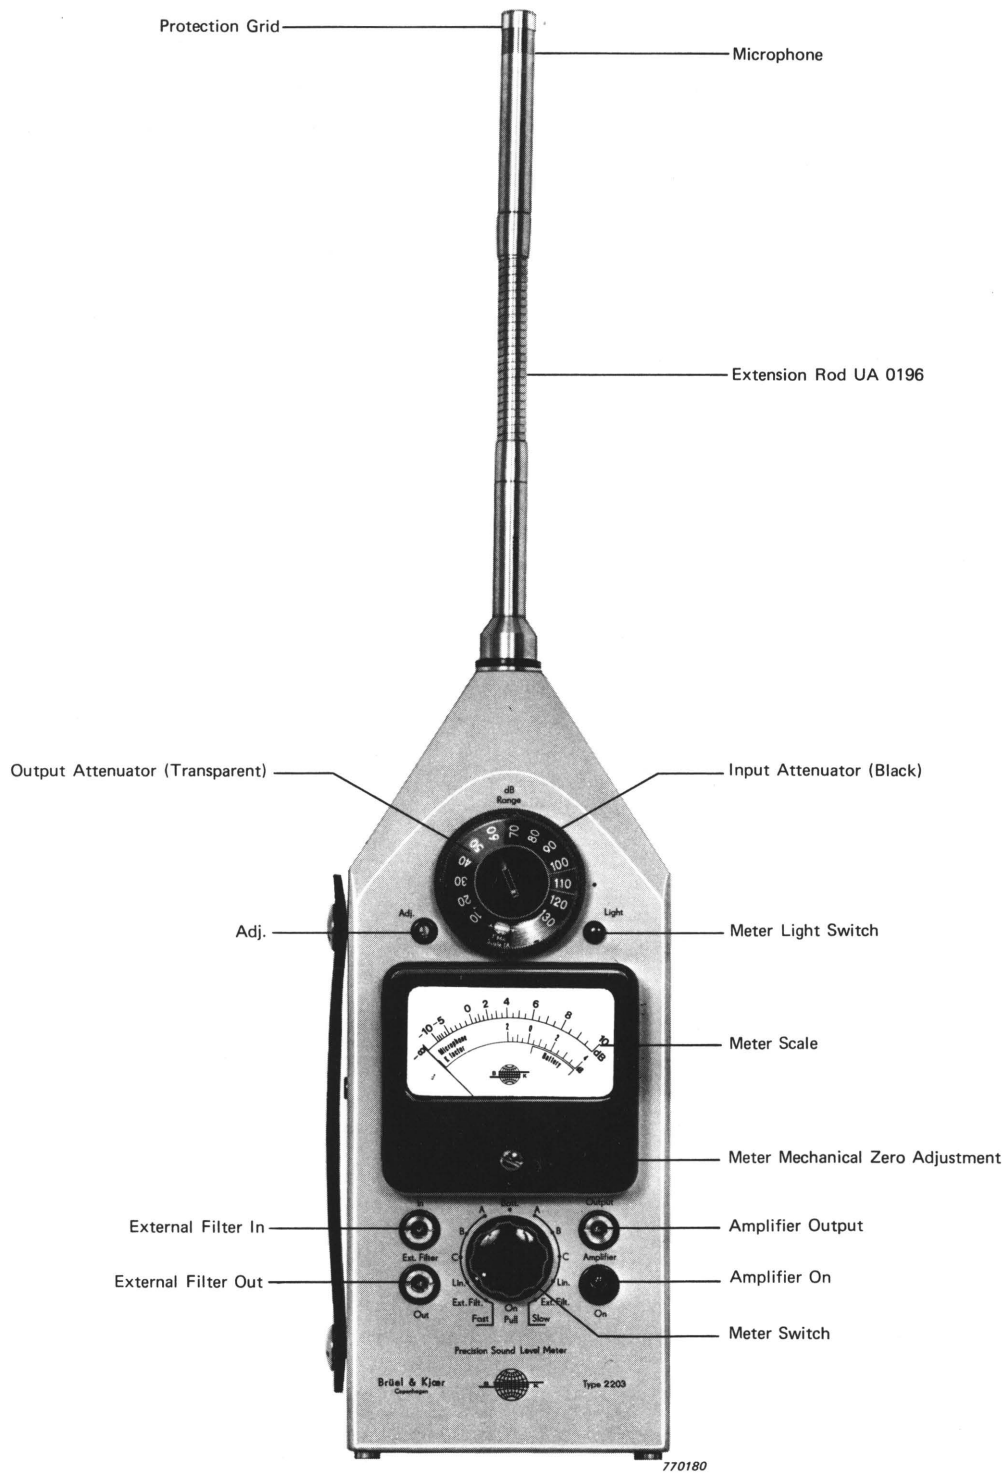

Fig.2.1. Front view of 2203
2. Attach the microphone, extension rods, or cables and adaptors to be used by screwing them together finger tight. (See Fig.8 of Chapter 1 for the selection of accessories, and Fig.2.1 for a view of the standard assembly.) These must be included in the calibration since they all affect the sensitivity.
In the example, for use with the set-up shown in Fig.2.1,  $K_o$  is found on the front of the calibration chart (+ 0,5 dB). From this is subtracted the input gain of —2,1 dB indicated on the back of the calibration chart. This gives a total K-factor of + 2,6 dB, to which the 2203 should then be calibrated.